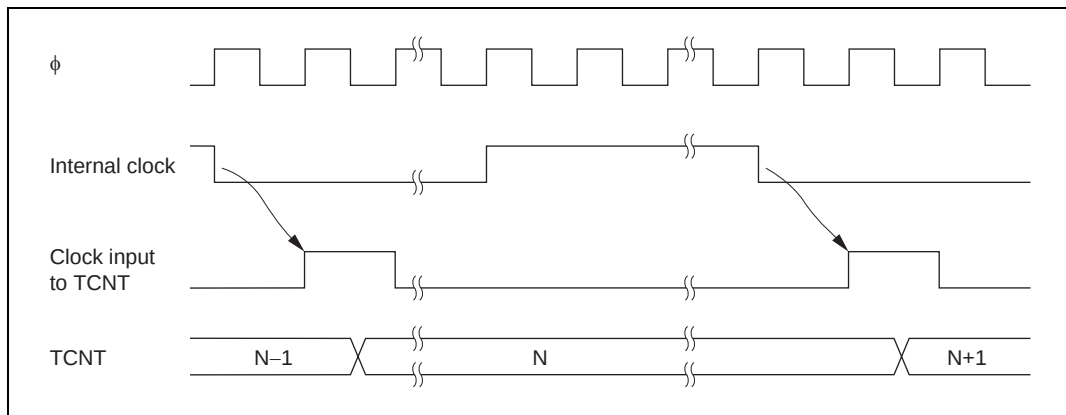

**Figure 10.2 Count Timing for Internal Clock Input**
**Internal Clock:** Three different internal clock signals ( $\phi/8$ ,  $\phi/64$ , or  $\phi/8192$ ) divided from the system clock ( $\phi$ ) can be selected, by setting bits CKS2 to CKS0 in TCR. Figure 10.2 shows the count timing.